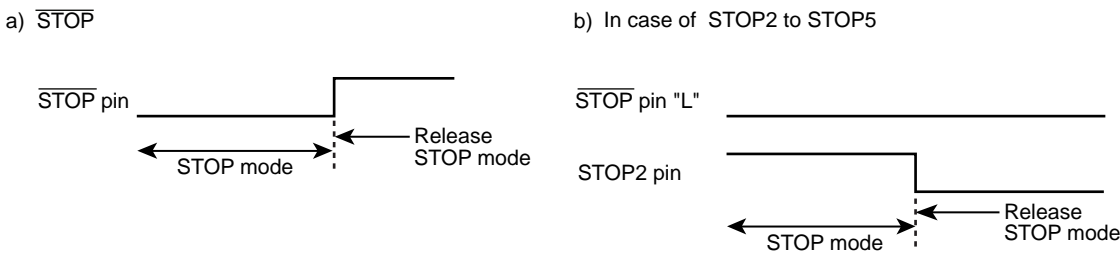

Figure 14-3 Priority of  $\overline{\text{STOP}}$  pin and STOP2 to STOP5 pins
- Note 6: When the STOP mode is released by STOP2 to STOP5 pins, the level of  $\overline{\text{STOP}}$  pin should hold "L" level (Figure 14-3).